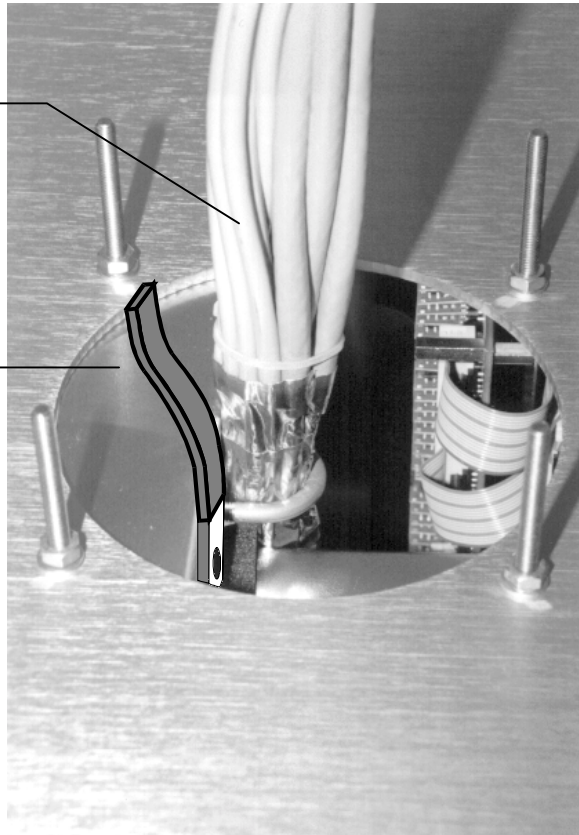

Fig. 6
- Figure 6 represents the bunch of cables placed in the fixing clamp and the earthing of the shields. This operation is absolutely necessary to insure correct functioning of the DNC.